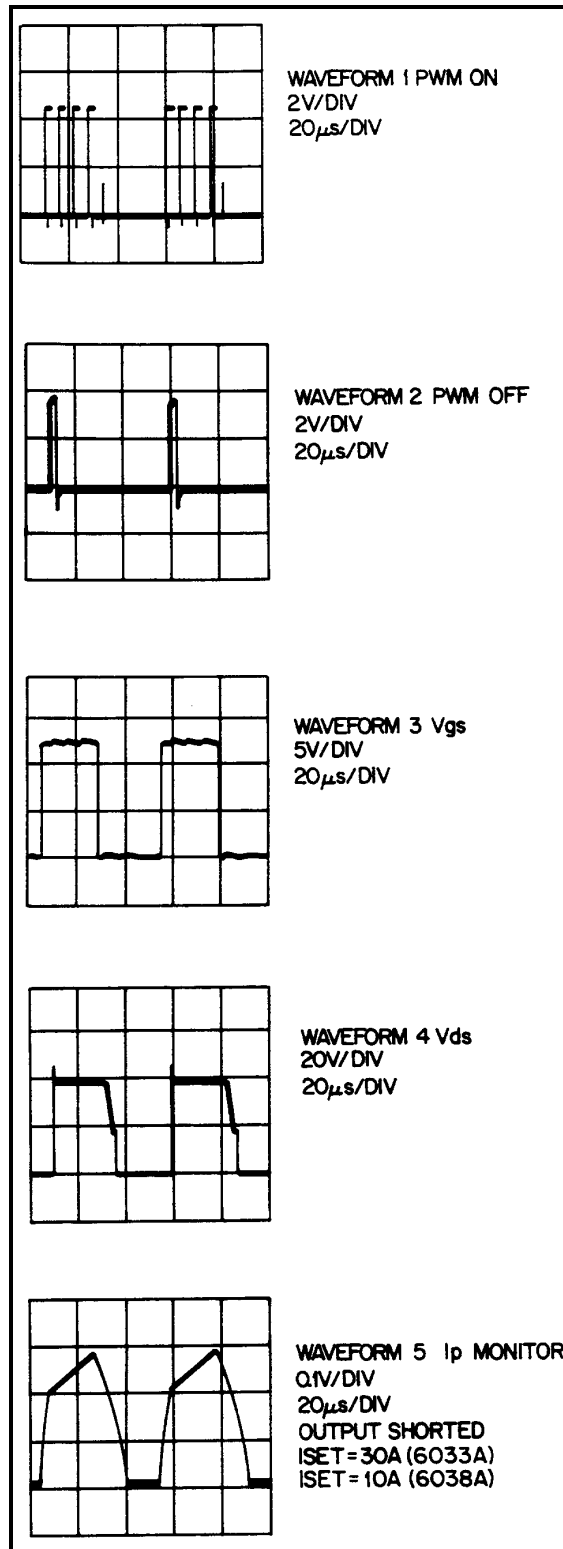

Figure 3-7. Waveforms
**Setup.** The Main Troubleshooting Setup, Page 48. Apply the ac mains voltage to the bias transformer, set the external supply to 40Vdc, and switch on the LINE switch. Set the unit's output voltage to 20Vdc and current to above 1Adc. Verify that the  $\overline{\text{OVERRANGE}}$  LED lights. See Figure 3-7 for waveforms.